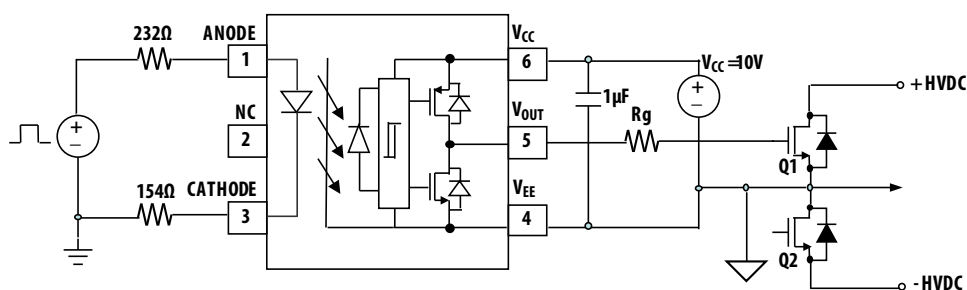

Figure 22. Recommended application circuit with split resistors LED.
The recommended application circuit shown in Figure 22 illustrates a typical gate drive implementation using the ACPL-P346.
Step 1: Calculate R_g minimum from the I_{OL} peak specification. The MOSFET and R_g in Figure 22 can be analyzed as a simple RC circuit with a voltage supplied by ACPL-P346/W346.
The ACPL-P346/W346 includes a Propagation Delay Difference (PDD) specification intended to help designers minimize “dead time” in their power inverter designs. Dead time is the time period during which both the high and low side power transistors (Q1 and Q2 in Figure 22) are off. Any overlap in Q1 and Q2 conduction will result in large currents flowing through the power devices between the high and low voltage motor rails.